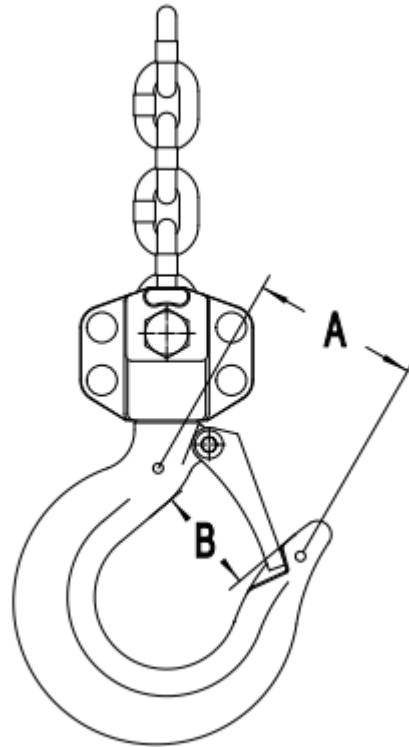

Figure 2
6. The top and bottom hooks on your ALR chain hoist are designed to open to warn of an overload. Both top and bottom hooks for 0.5 to 5 ton hoists have two indicator points (A, Figure 2) cast into the hook for measurement. Refer to Table 2 (page 13) to determine if a hook needs to be replaced.
Hooks for 10- and 20-ton hoists do not have indicator points. Measurements are made at the jaw opening (B, Figure 2).